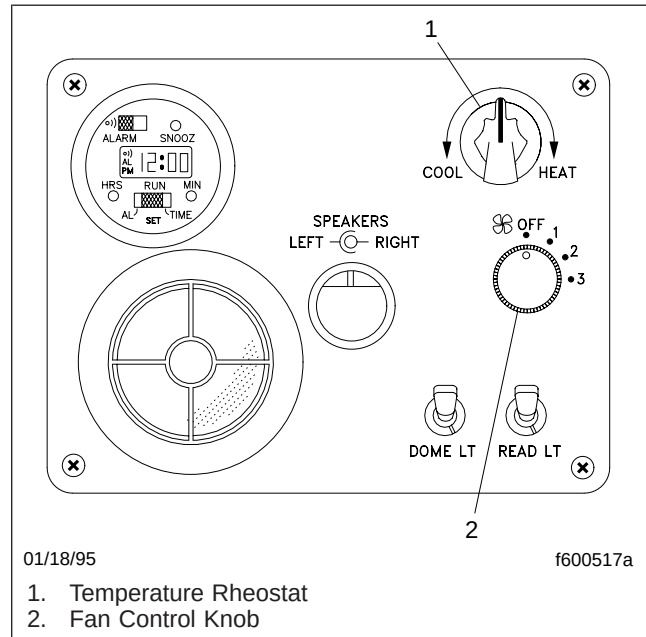

Fig. 4.11, Control Panel for Automatic Temperature Control System
2. If equipped with either the Red Dot constant temperature control (CTC™) system, or the Behr automatic temperature control system (**Fig. 4.11**), do the following: